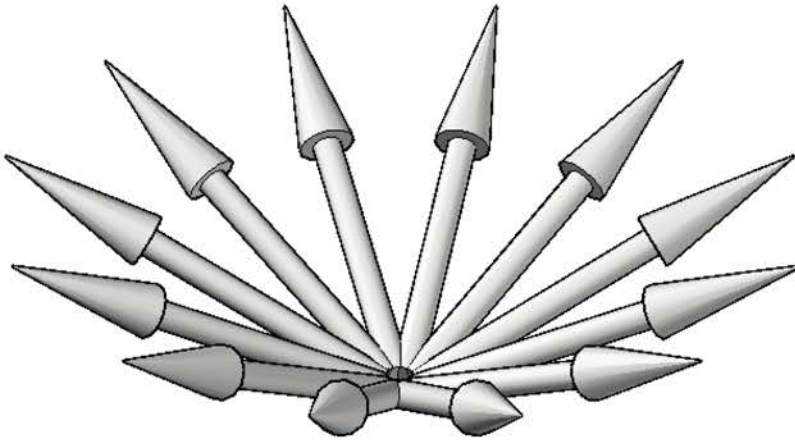

Fig. 11.15 Third example – a 3D Polar Array
THIRD EXAMPLE – A POLAR ARRAY (FIG. 11.15)
- Place the array in the **SW Isometric** view and shade to **Shades of Gray**. The result is shown in Fig. 11.15.